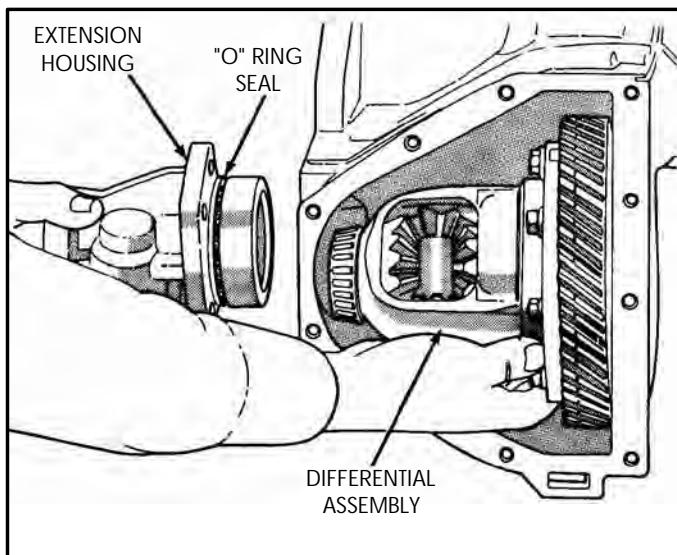

Figure 181
12. After turning torque is correct on output shaft, reinstall the differential assembly, as shown in Figure 181.
13. Install new "O" ring on extension housing, as shown in Figure 181, and lube with a small amount of Trans-Jel®.